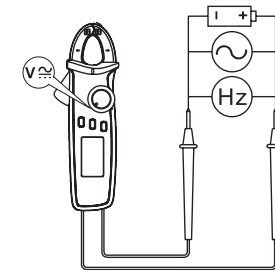

Figure 2
**VII. Description of Symbols (Figure 2)**
- Touch the measured part with the red and black probes, such as a power socket (Figure 2).